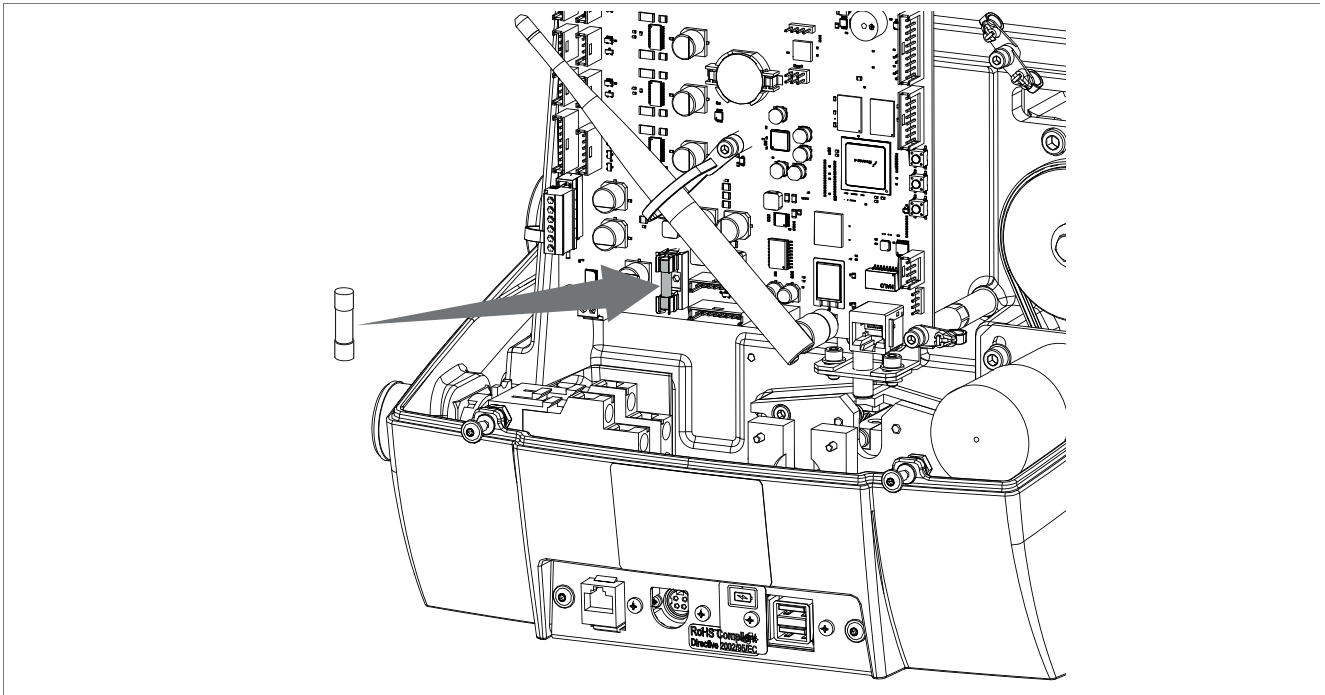

Fig. 48
- 3) Remove the fuse from its seat (Fig. 48) and replace if necessary.